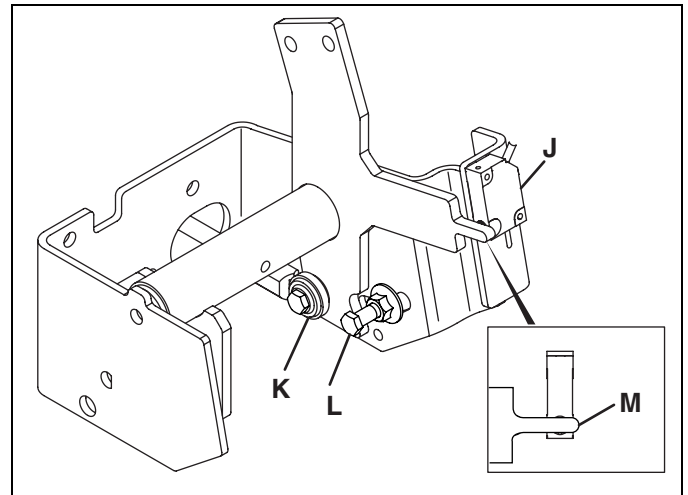

Figure 3E
3. Check that tow valve (H) is closed
4. Engage parking brake and set mow switch to neutral. Make sure neutral switch at traction pedal is closed. (Figure 3E - M). Distance between the switch and metal pointer "M" must be between 0.060" and 0.120".
5. Loosen screws (G) holding pump lever bracket just enough so it can be moved. Start engine and observe wheels. Adjust bracket (F) in slotted holes until wheels do not turn. Turn off engine and tighten bracket in place.
6. Connect traction linkage. When connecting linkage at traction pedal make sure pointer on traction pedal bracket is centered over neutral switch (M - Figure 3E).